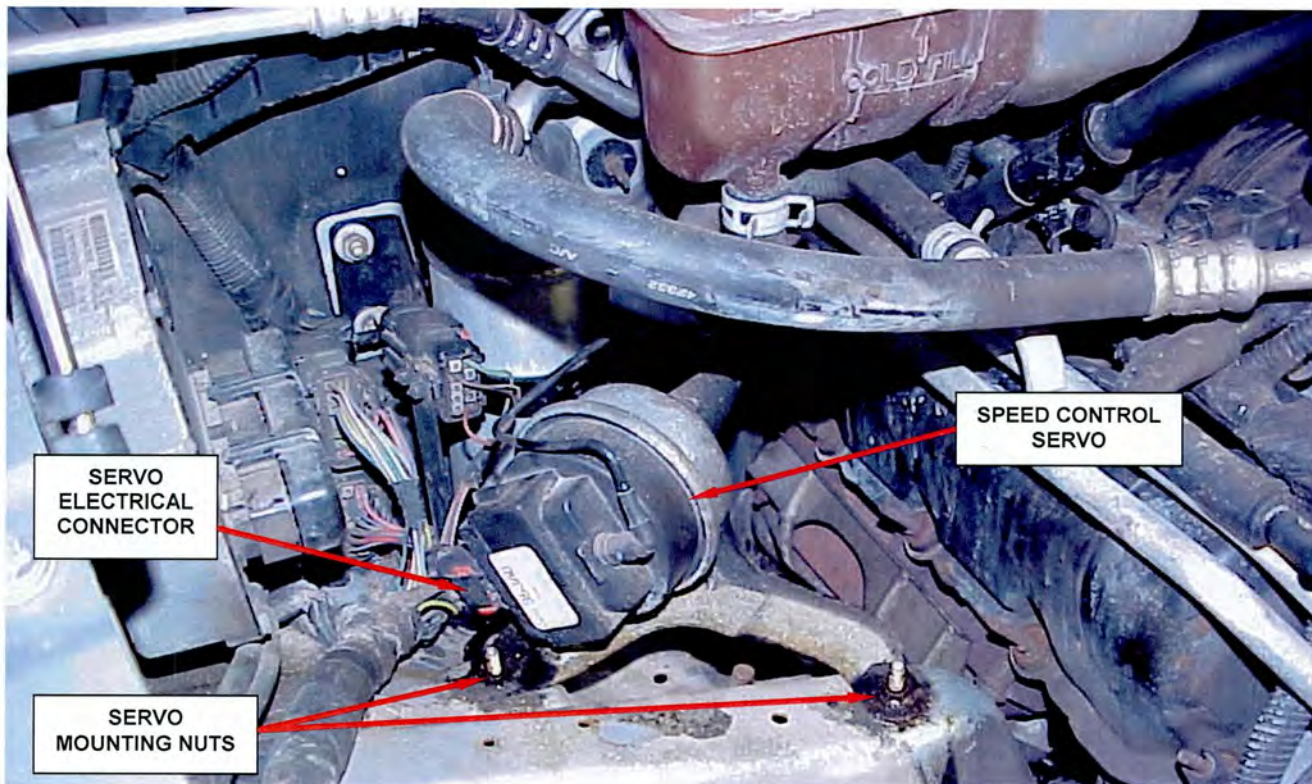

Figure 3 – Relocate Speed Control Servo
9. Remove the speed control servo mounting nuts, disconnect the servo electrical connector and relocate the servo to gain access to the upper control arm bolts (Figure 3).
24. Connect the speed control servo electrical connector (Figure 3).
25. Place the speed control servo into position and install the mounting nuts (Figure 3).